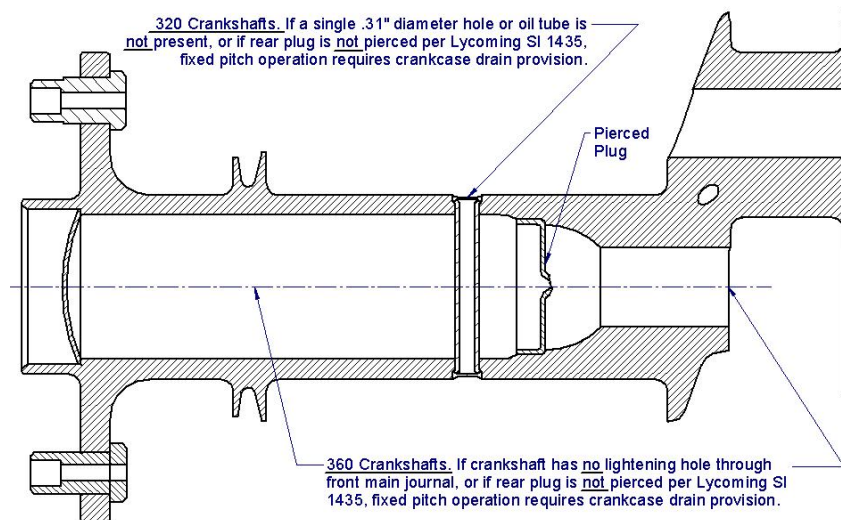
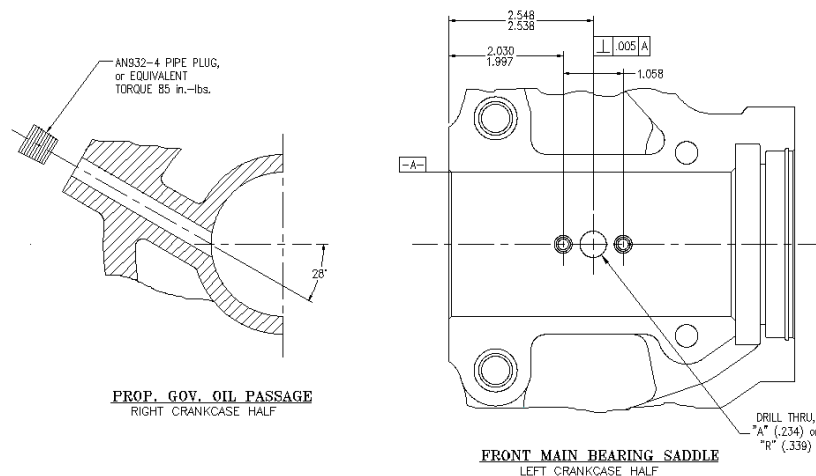

Figure 1: Explanation of Applicable Crankshafts
Figure 2: Depiction of Fixed Pitch Operation
For many fixed pitch models, oil from the 1.12" annular groove area of the bearing is drained via the crankshaft, either by means of a single drain hole or through an oil tube opening into the ID of the crankshaft front main bearing journal lightening hole, and from there into the crankcase interior. See Figure 1. For engines using crankshafts without oil drain provisions (i.e., "solid" crankshafts with no drain hole, oil tube or lightening hole through the front main journal ID, or crankshafts having a rear plug which is not pierced per Lycoming Service Instruction 1435), the oil drain must be provided by the engine crankcase. This drain consists of a single hole drilled between the bearing dowels in the front main bearing saddle of the left crankcase half (2-4 cylinder side). See Figure 2
6.0 REWORK: If oil drain provision in the crankcase is required, drill a single oil drain hole in the left crankcase half according to Figure 2 below.
“Drilled oil drain hole in left crankcase half and installed plug in right crankcase half per ECi Service Instruction 04-4, Figure 2.”